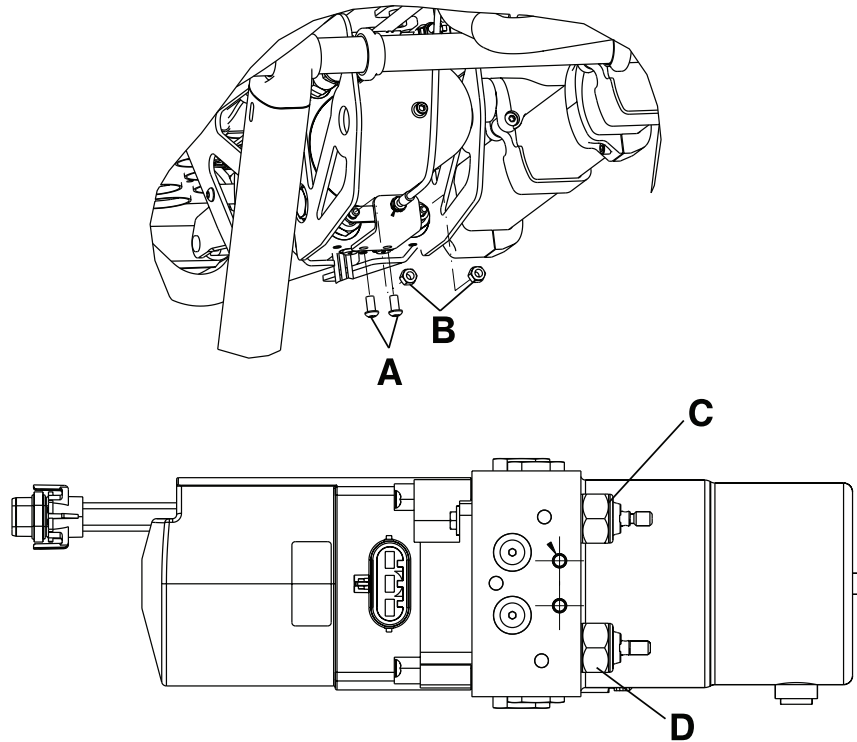

Figure 14: Hydraulic manual release valve
3. Using a T27 Torx driver, remove the two button head cap screws (A) that secure the manual release cable bracket to the bottom of the hydraulic subassembly. (Figure 14 on page 41).
5. Using a 7/16" combination wrench, remove the Nylock hex nut (B) from each of the valve stems. (Figure 14 on page 41).
6. Using a 7/8" hex wrench, remove the valve (C or D) to be replaced. (Figure 14 on page 41).